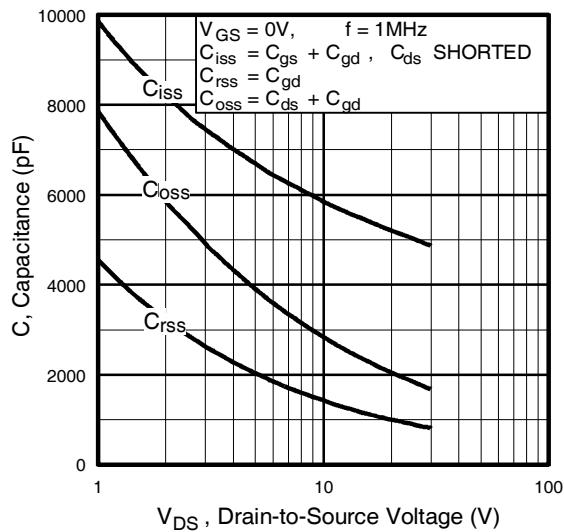

Fig 5. Typical Capacitance Vs.
| C_{rss} | Reverse Transfer Capacitance | — | 880 | — | | $f = 1.0\text{MHz}$, See Fig. 5⑤ |